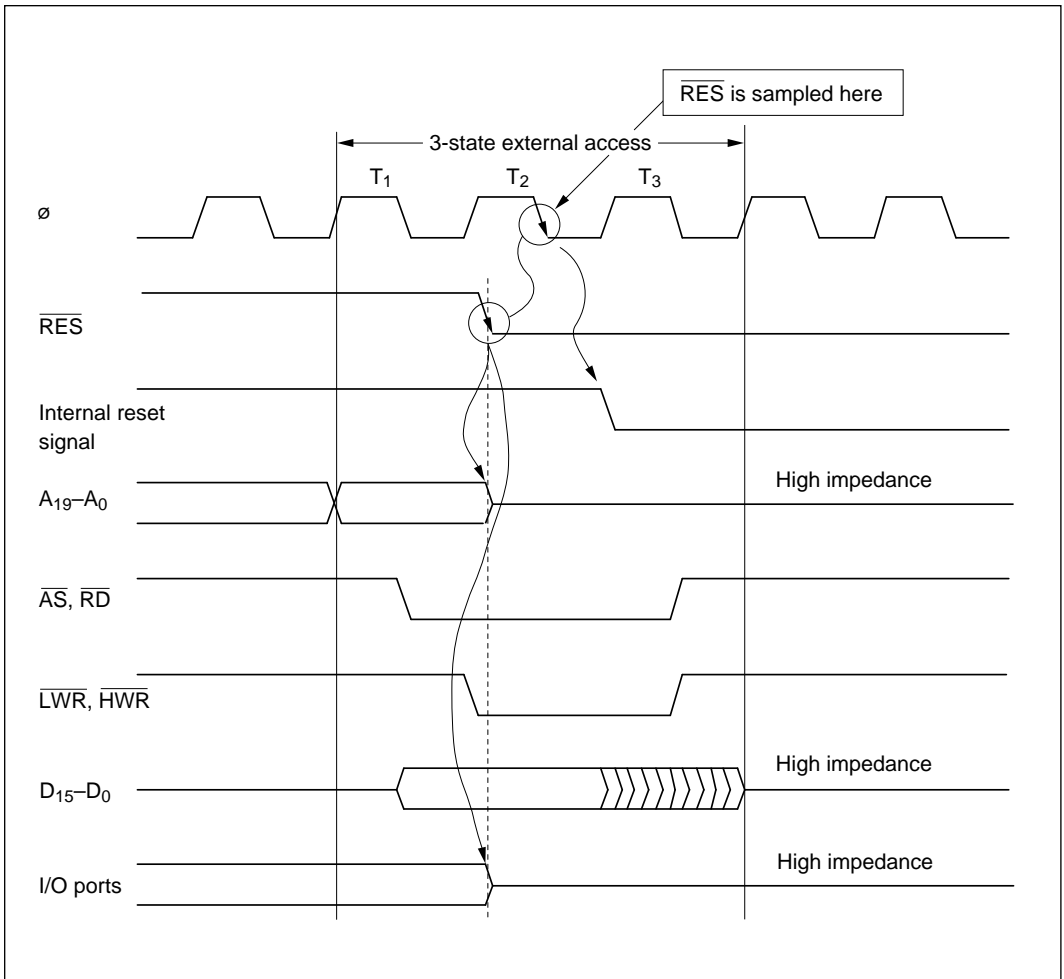

Figure G-4 Reset during Three-State Access (mode 4)
(4) Mode 4: Figure G-4 is a timing diagram for the case in which $\overline{\text{RES}}$ goes low during three-state access in mode 4. As soon as $\overline{\text{RES}}$ goes low, all ports are initialized to the input state. $\overline{\text{AS}}$, $\overline{\text{RD}}$, $\overline{\text{LWR}}$, and $\overline{\text{HWR}}$ go high, and D_{15} to D_0 go to the high-impedance state. A_{19} to A_0 are initialized as soon as $\overline{\text{RES}}$ goes low, and become input ports.